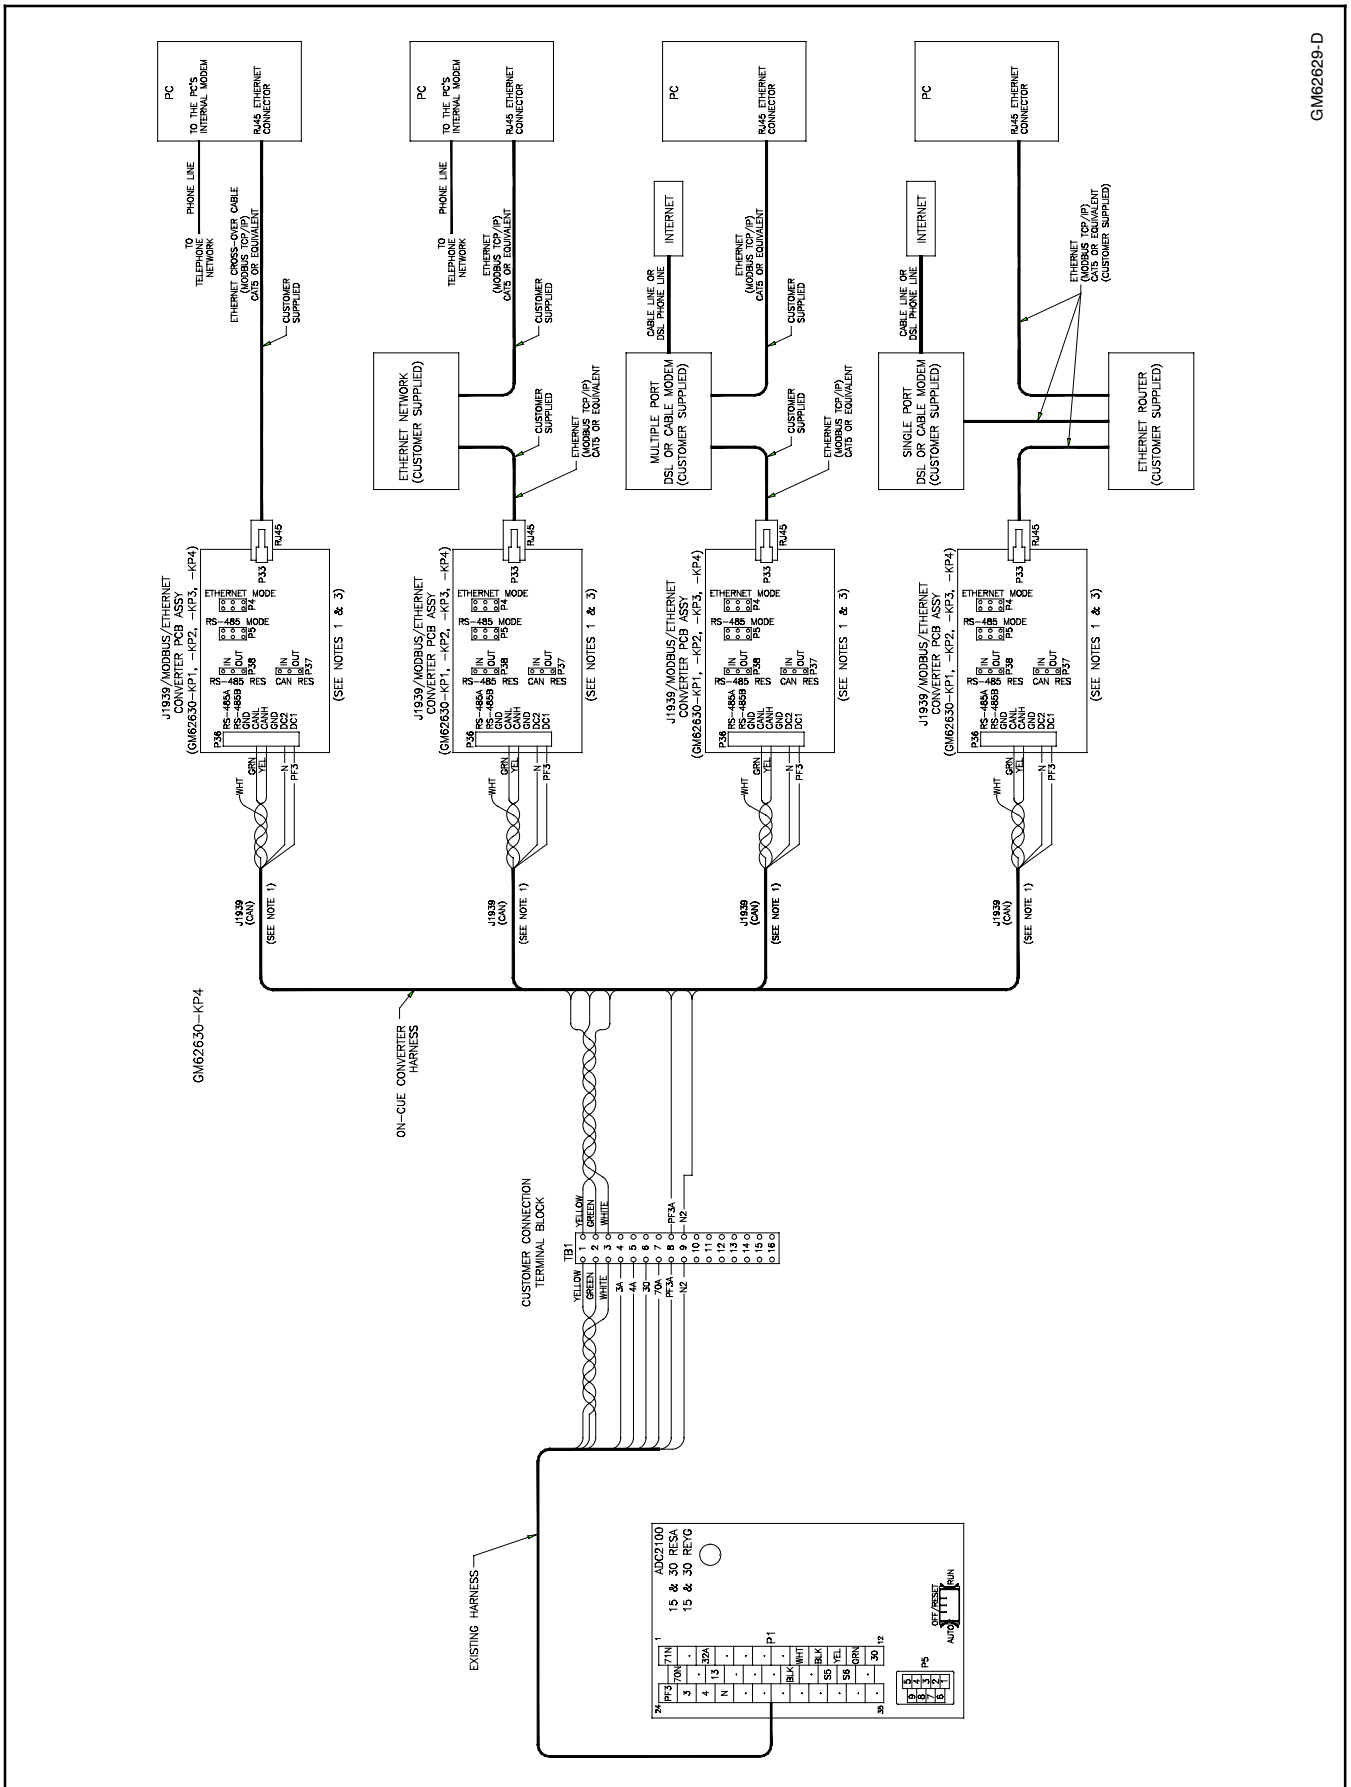

Figure 23 Network Connection Diagram GM62629, Sheet 3
1. Connect the N2, PF3A, white, green, and yellow leads of network bridge harness GM85426 to the generator set terminal block as shown in Figure 23.
2. Connect 8-pin connector P1 of network bridge harness GM85426 to P36 on the bridge. See Figure 23.